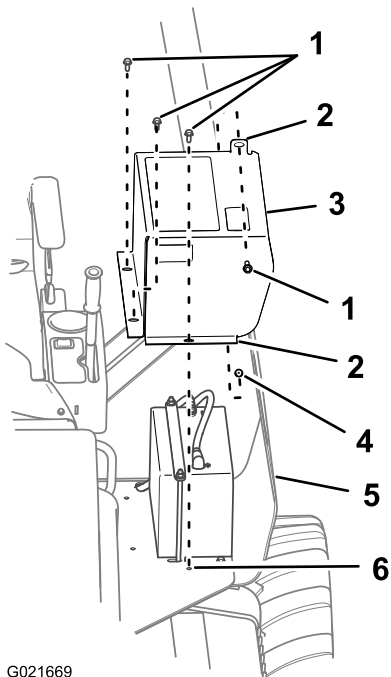

Figure 55
2. Remove the bolt that secures the battery cover to the ROPS plate (Figure 55).
3. Remove the 3 bolts that secure the battery cover to the operator platform, and remove the battery cover (Figure 55).
1. Align the holes in the mounting flanges for the battery cover with the holes in the operator platform around the battery (Figure 55).
2. Secure the battery cover to the ROPS plate with a bolt (Figure 55).
3. Secure the battery cover to the operator platform with the 3 bolts that you previously removed (Figure 55).